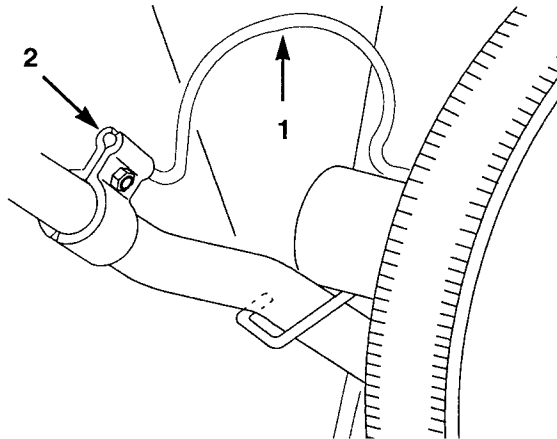

Figure 89
- D. Rotate the spring and insert its end into the hold-down clamp (Fig. 89).
1. Pull the hold-down spring out of the clamp (Fig. 89).